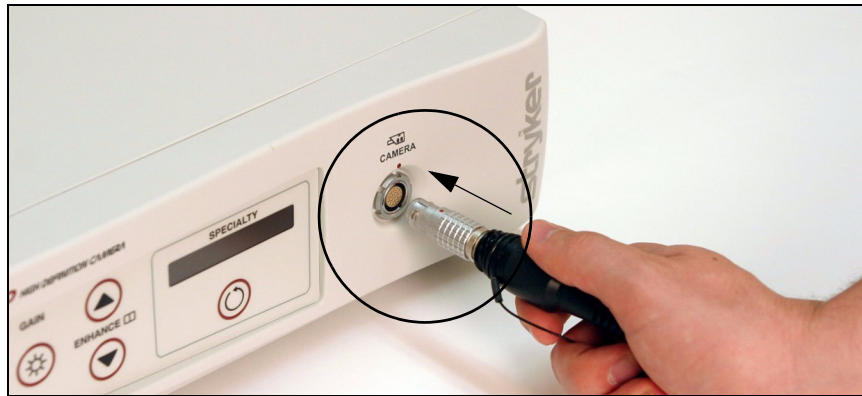

Figure 4: Connecting the camera head to the console
- Align the red dot on the cable connector with the red dot on the camera-connector port on the front console panel (see Figure 4).